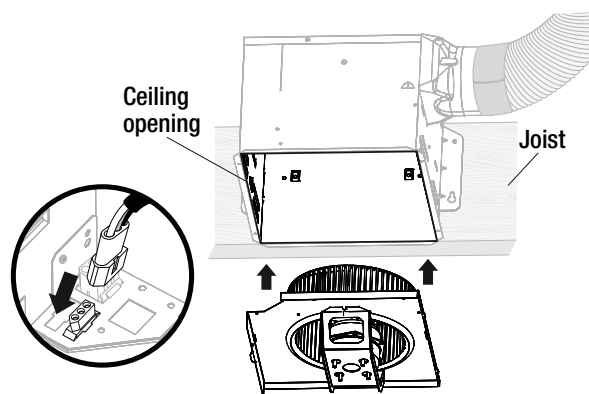

Fig. 18
- Reinstall motor mounting assembly. Plug the motor into the receptacle. See figure 18.